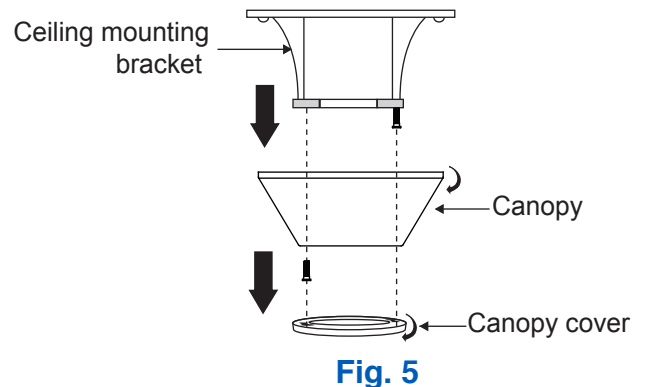

Fig. 5
Step 1. Remove the decorative canopy bottom cover from the canopy by turning the cover counterclockwise. (Fig.5)
Step 2. Remove the ceiling mounting bracket from the canopy by removing (and save) one of the two screws. Loosen the remaining screw by a half turn. (Fig.5)